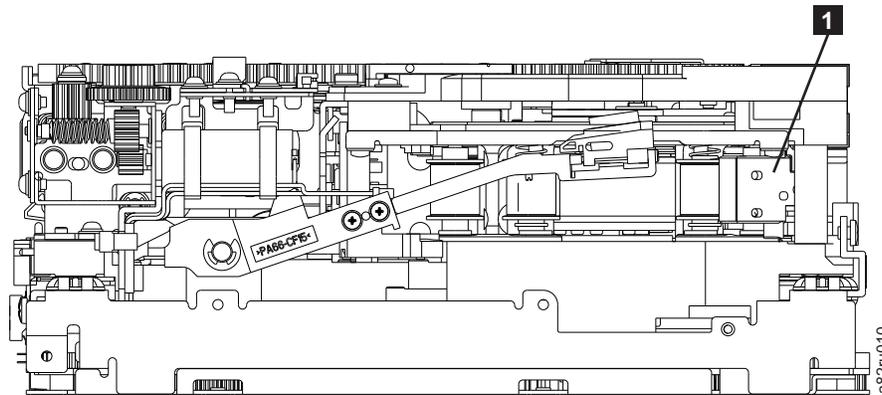

Figure E-8. Leader Block Assembly (LBA)
7. Rotate the threader motor worm gear ( **4** in Figure E-7 on page E-8) to turn the threader mechanism gear ( **6** in Figure E-7 on page E-8) counterclockwise. This moves the LBA out of the cartridge and past the read/write head. Stop this rotation when the LBA is near the tape guide roller nearest the rear of the drive ( **1** in Figure E-8).